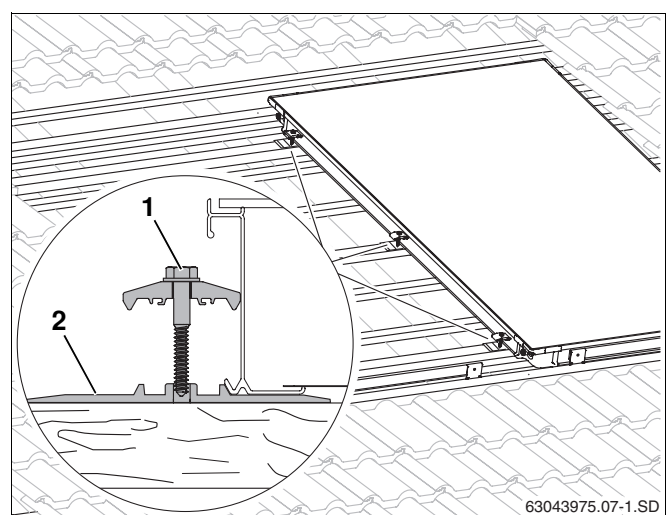

Fig. 26 Double-sided clamp on the first collector
- Lift collector slightly and, on the 2nd and 3rd additional battens, as well as halfway along the collector on a free batten, push the pack plate (Fig. 26, **Item 2**) with the double-sided clamp under the collector until the roof pushes against the lower edge of the collector.
- For the screw (Fig. 26, **Item 1**) drill a pilot hole with a 4 mm drill. To mark position, use notch in the pack plate.